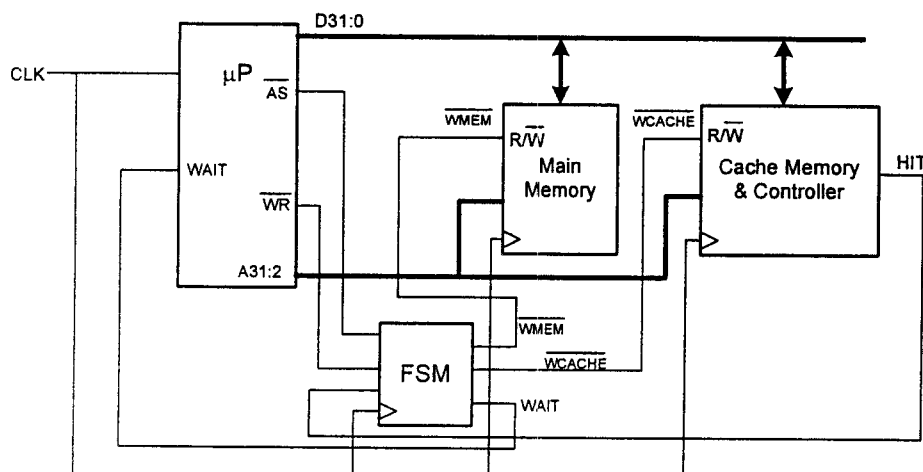
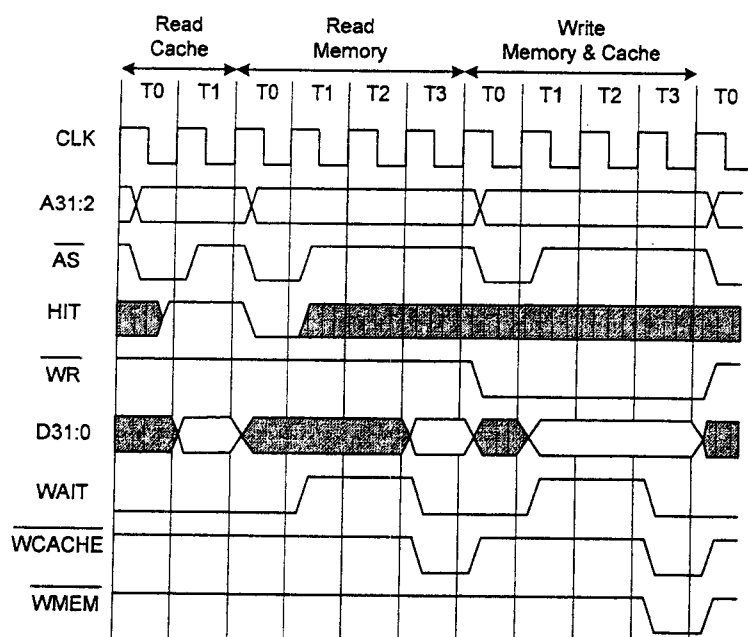

Figure 4.1
Figure 4.2
4. In a 32-bit microprocessor system shown in *Figure 4.1*, a fast cache memory is used to increase the effective speed of the main memory. The operation of the microprocessor and the memory interface circuit is controlled by the clock signal *CLK*. *Figure 4.2* shows the timing diagram during three different types of memory accesses.